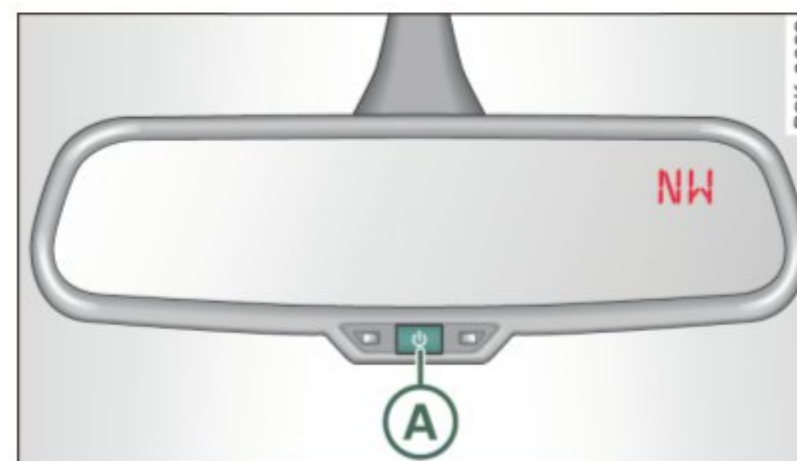

Fig. 67 Inside rear view mirror: digital compass activated
- Hold the **(A)** ⇒ page 68, fig. 67 button down until the number of the set magnetic deflection zone appears on the interior rear view mirror.